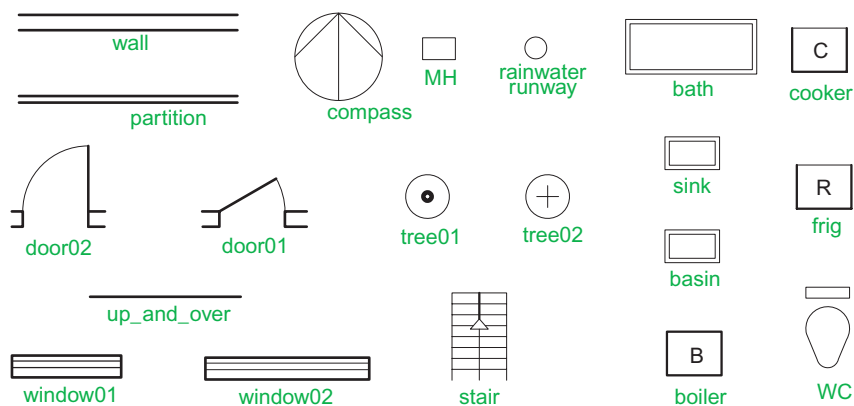
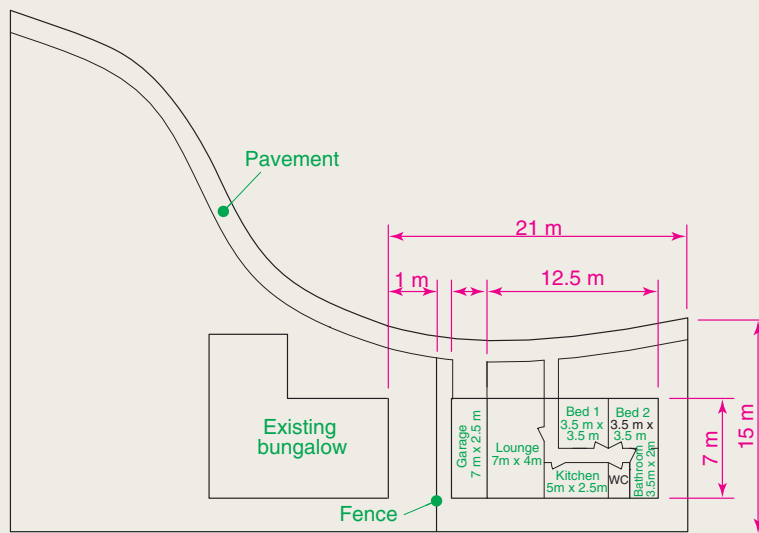
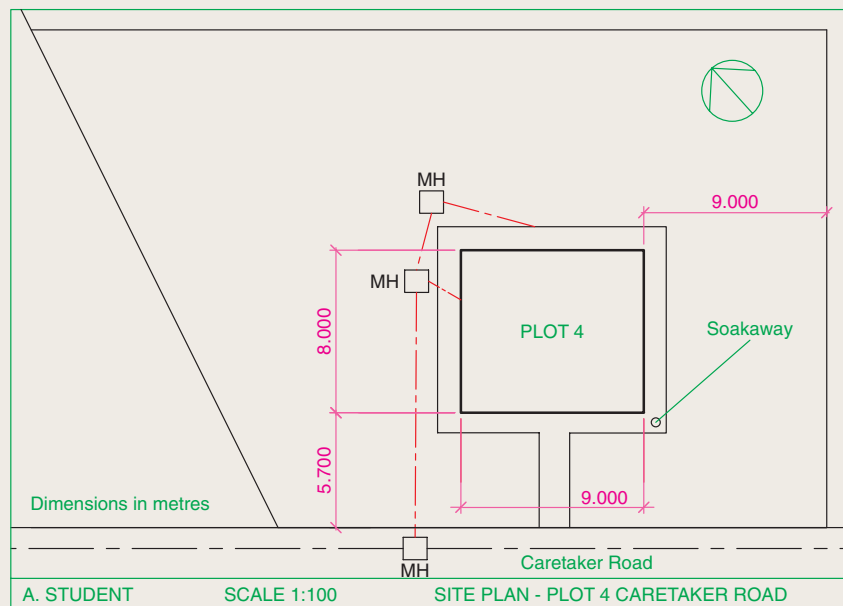
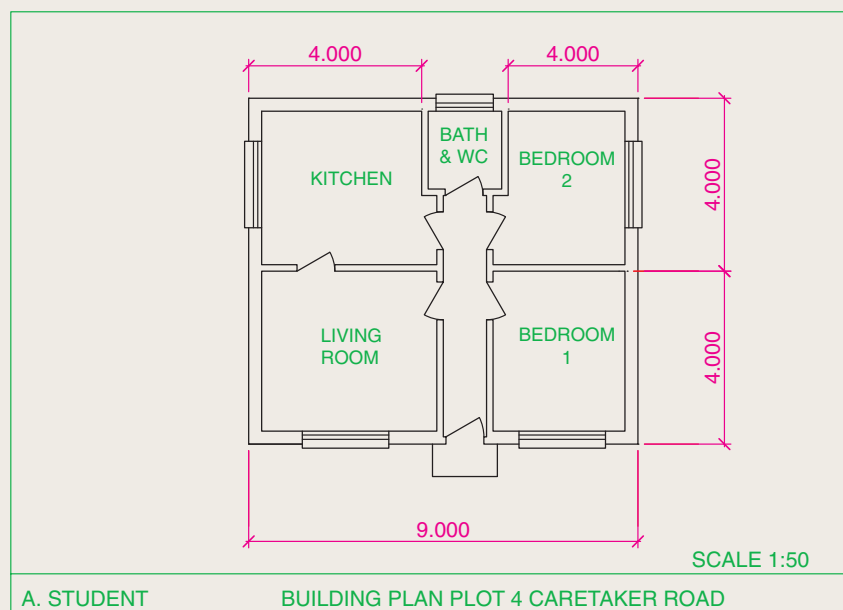

Fig. 16.8 A small library of building symbols
Fig. 16.28 Exercise 1
Fig. 16.30 Exercise 3 – site plan
Fig. 16.31 Exercise 4 – a building plan
When constructing floor layout drawings it is advisable to build up a library of block drawings of symbols representing features such as doors, windows etc. These can then be inserted into layouts from the DesignCenter. A suggested small library of such block symbols is shown in Fig. 16.8.
1. Fig. 16.28 is a site plan drawn to a scale of 1:200 showing a bungalow to be built in the garden of an existing bungalow. Construct the library of symbols shown in Fig. 16.8 on page 328 and by inserting the symbols from the DesignCenter construct a scale 1:50 drawing of the floor layout plan of the proposed bungalow.
3. Fig. 16.30 shows a scale 1:100 site plan for the proposed bungalow 4 Caretaker Road. Construct the floor layout for the proposed house shown in the drawing Fig. 16.28.
4. Fig. 16.31 shows a building plan of the house in the site plan (Fig. 16.30). Construct a 3D model view of the house making an assumption as to the roofing and the heights connected with your model.